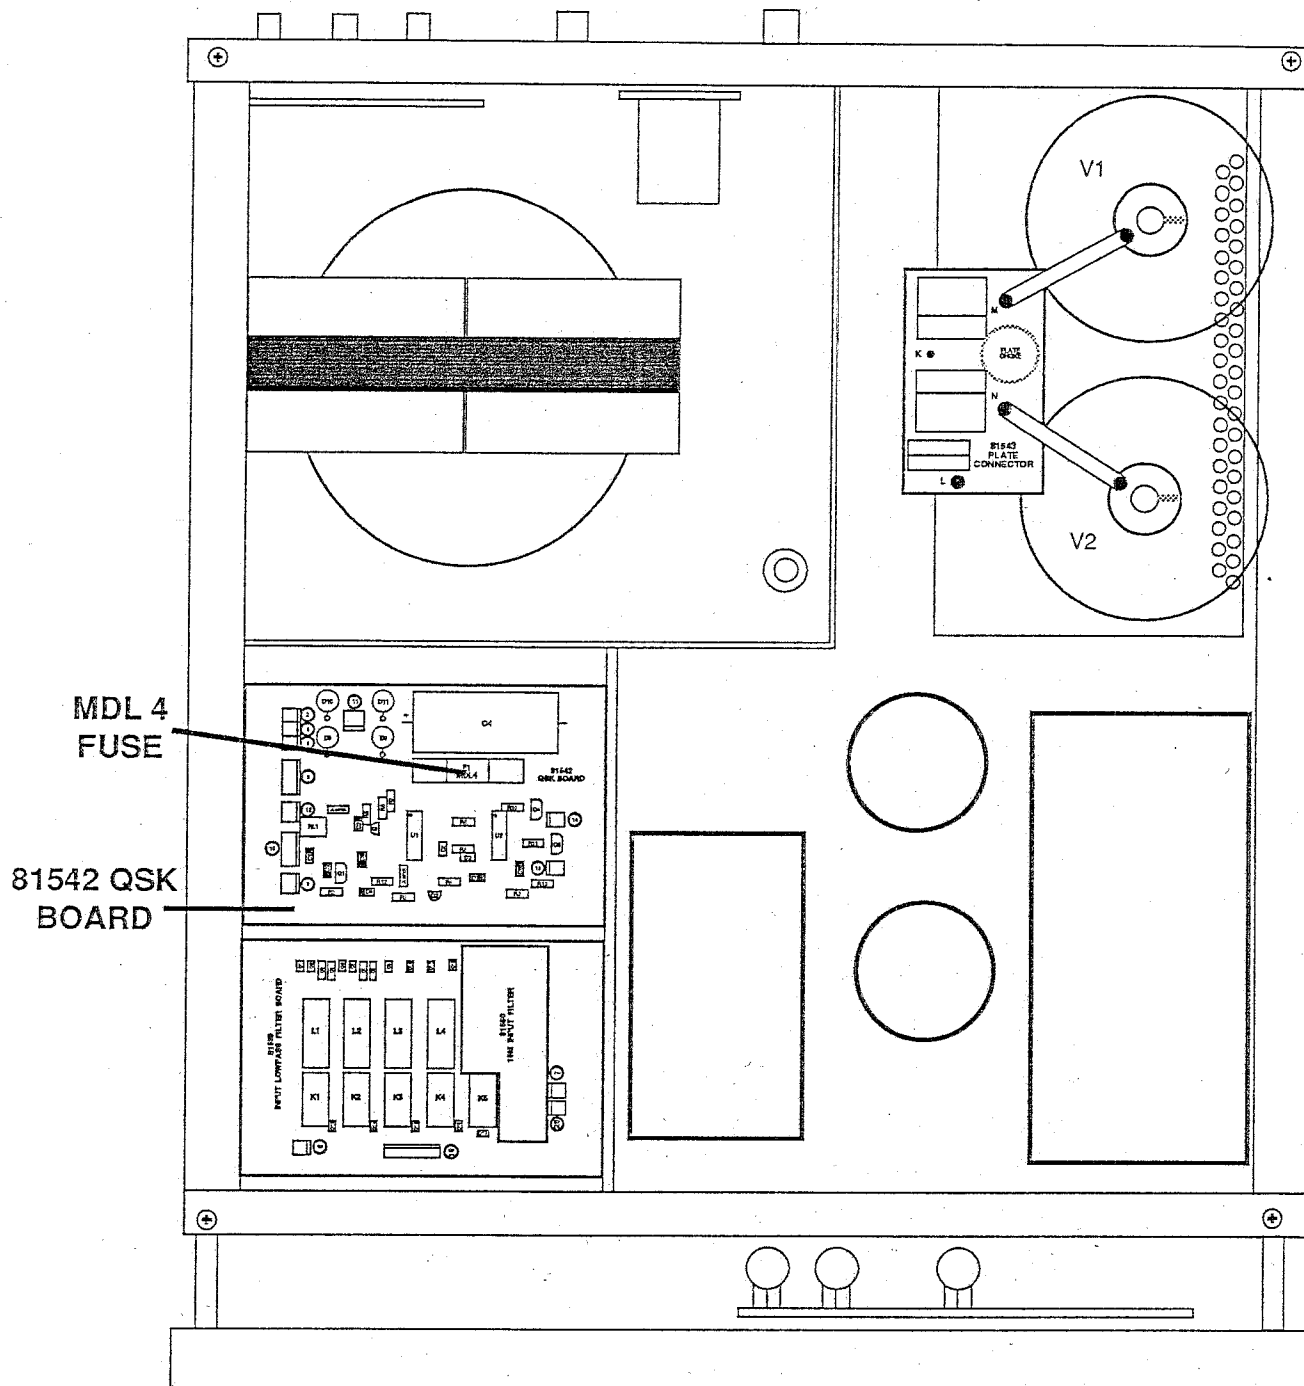

FIGURE 1-0. INSTALLATION OF MDL4 FUSE ON 81542 QSK BOARD
- 10] Refer to FIGURE 1-0 and locate the 81542 QSK Board. Install the MDL4 fuse provided in the packing kit into the fuse clips on the QSK Board.